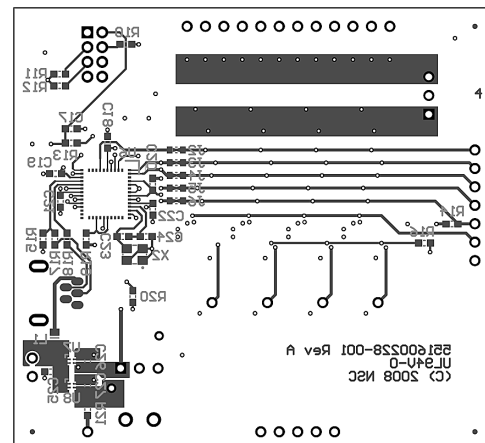

Figure 9. LP5521 Evaluation Board Layer 4 (Bottom, Signal)
4. Bottom, solder side, signal (Figure 9)